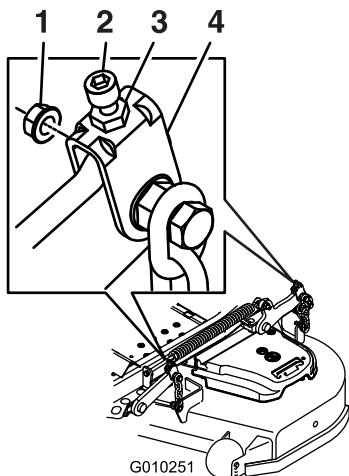

Figure 84
10. If needed, loosen the whizlock nut on the side of the yoke and the jam nut on top. Fine tune the screw adjuster by turning it to get 3 inch (7.6 mm) height (see Figure 84).
16. Fine tune the screw adjuster by turning it to get 3-1/4 inches (8.3 mm) height (Figure 84).